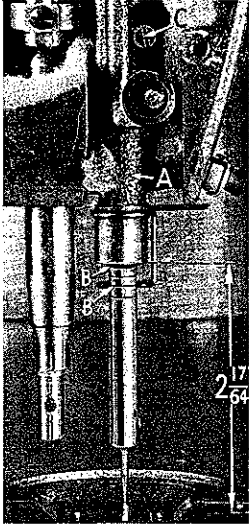
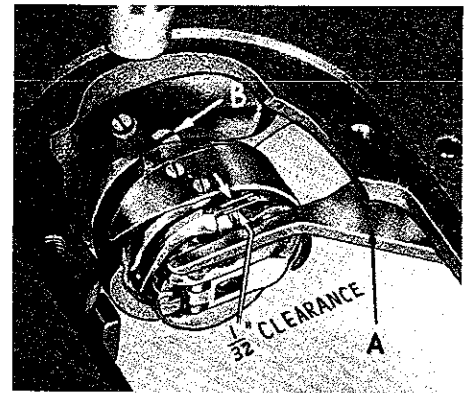

Fig. 11
Fig. 12
The lower end of the needle bar frame, the one to which the needle bar is timed, is faced to height at the factory. The distance from the bottom of frame (A, Fig. 11) to the throat plate seat is $2 \frac{17}{64}$ inches.
When the needle bar is at its lowest position, the upper timing line (B, Fig. 11) (of the pair selected) dependent upon the needle used, should be EVEN with the lower edge of the lower needle bar frame (A).
The illustration (Fig. 11) shows the proper setting of the needle bar on Styles 63900 A, C or AL using extra short length needles, Type 183. The setting of the needle bar on Styles 63900 B or D using short length needles, Type 180, is accomplished in the same manner, except that the lower pair of timing marks on the
Tip the machine back so that it rests on the rest pin in the table top. Insert a new needle. Loosen the two screws, and swing out the bobbin case positioning finger (A, Fig. 12). Loosen the three set screws (B) in the hook, and hold the hook and bobbin case holder in such a position as to prevent interference with the needle. Turn handwheel in operating direction until the needle bar is at its lowest position, and continue to turn the handwheel until the needle is ascending and the lower timing mark (of the pair selected) (Fig. 11) used in setting the needle bar is even with the lower edge of the needle bar frame (A).
Adjust the bobbin case holder positioning finger by turning the bobbin case holder until the finger recess is at the top. Place the projection on the finger into the bobbin case holder recess and tighten the finger attaching screws securely, allowing $\frac{1}{32}$ inch clearance between the outside edge of projection and the inside edge of bobbin case recess (Fig. 12).